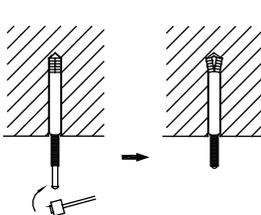

Fig.4
- (1) Insert the anchor bolt M10 to the hole then nail the iron nails into the bolts. The distance between holes is shown in fig.4. The installation of the anchor bolt is shown in fig.5.